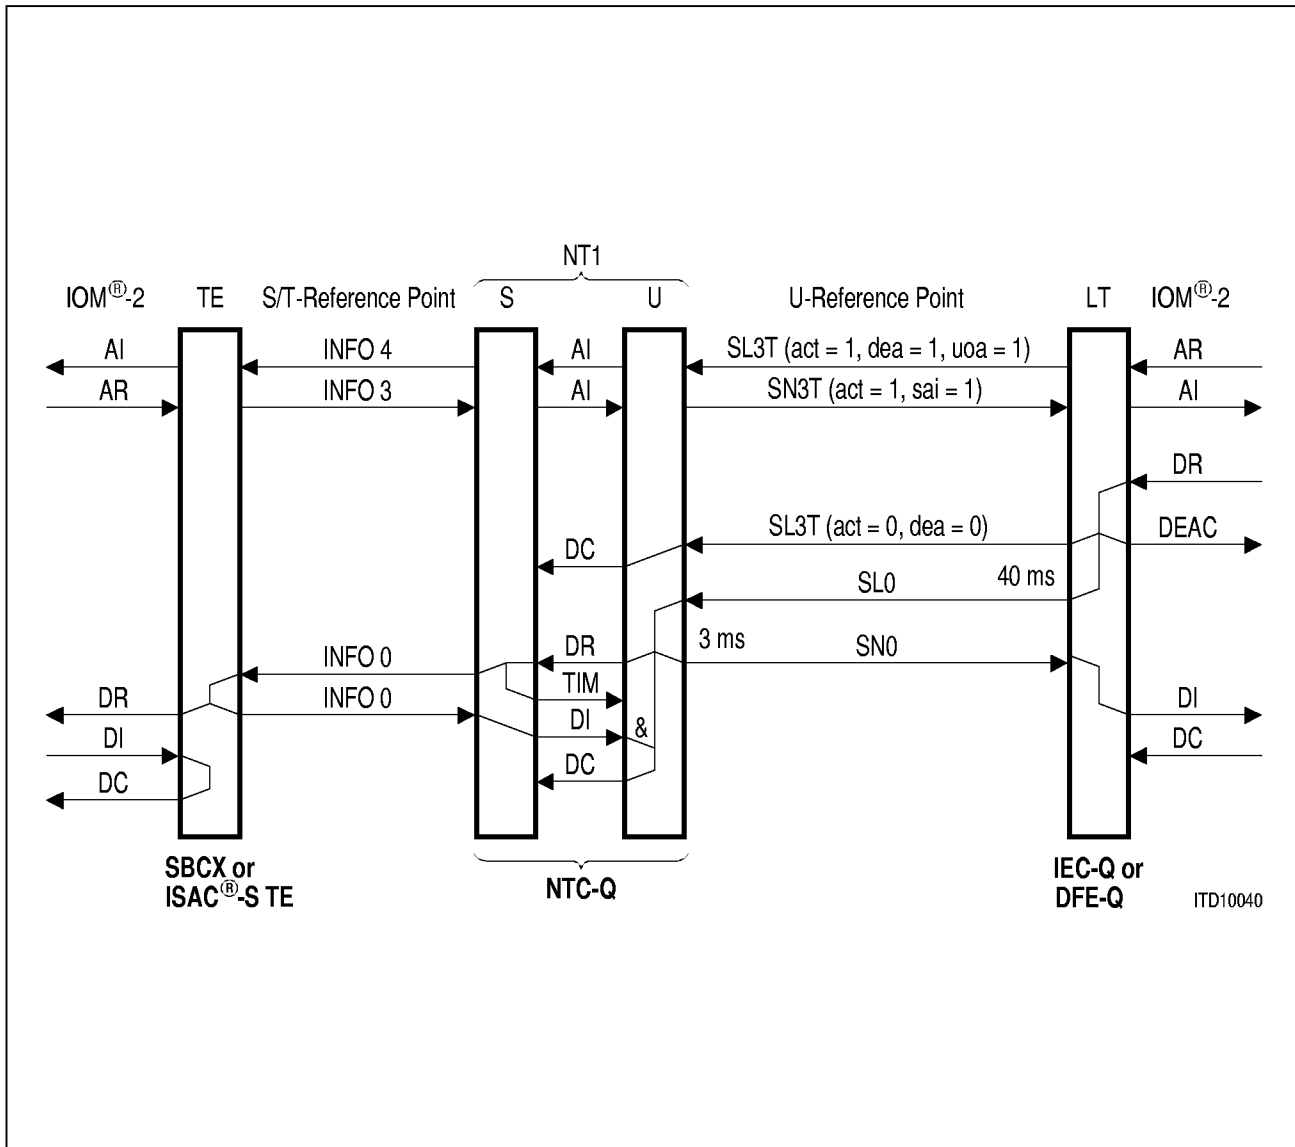

Figure 31 Complete Deactivation
Figure 31 depicts the procedure if deactivation has been initiated. Deactivation of layer 1 is always initiated by the exchange (LT)